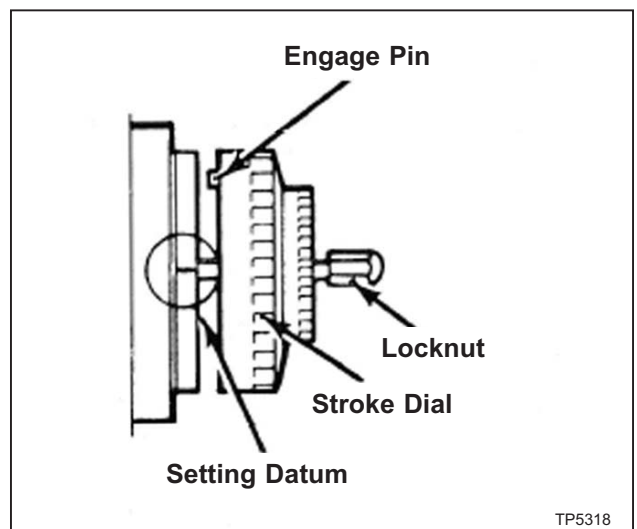

Figure 2.35 - Changing E-Head Stroke
1. Loosen locknut (see Figure 2.35).